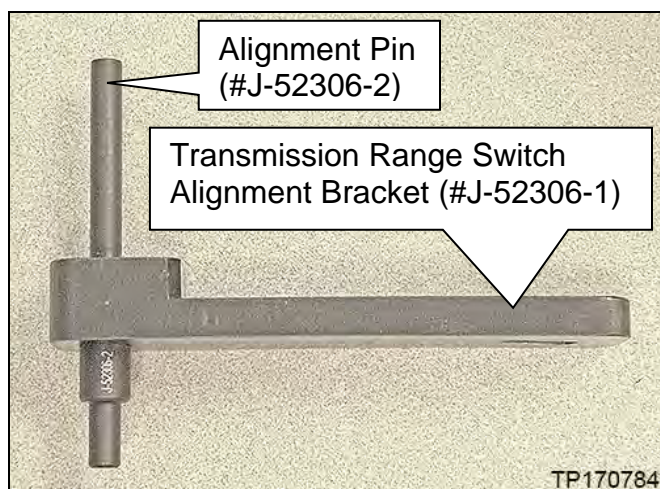

Figure 2W
- a. Install the alignment pin (#J-52306-2) into the Transmission Range Switch Alignment Bracket (#J-52306-1) as shown in Figure 2W.